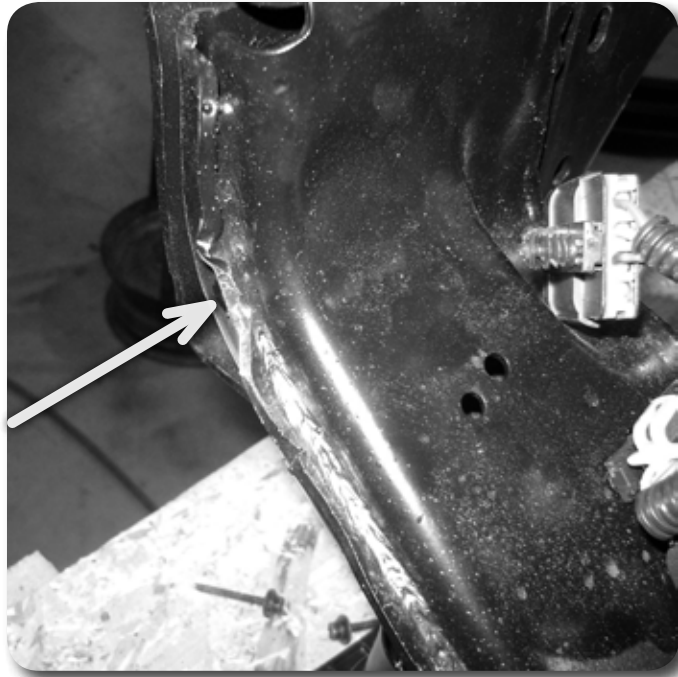

Figure 10
12. Locate to outer rear lip of the bumper structure where the main tubular section bends up to mate with the outer mounting brackets. The outer (back) lip will need to be ground down about 1/4" along the bent section to clear the bumper shell in its relocated position. **Figure 10** The trimming will be check again after installing the shell. Paint any bare metal.